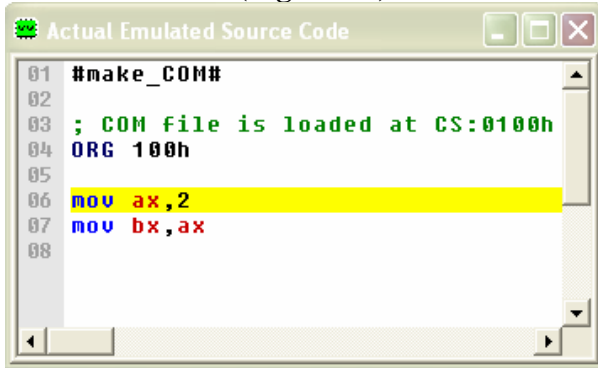

Figure 11
- This window (Figure 11) views the source code; the highlighted instruction is the next one to be executed